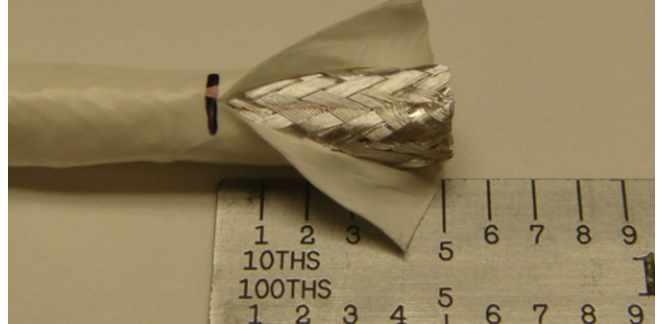

Figure 11: Slitting the cable jacket
4. Using a scalpel or scissors, slit the cable's jacket from its edge to the mark (Figure 11).